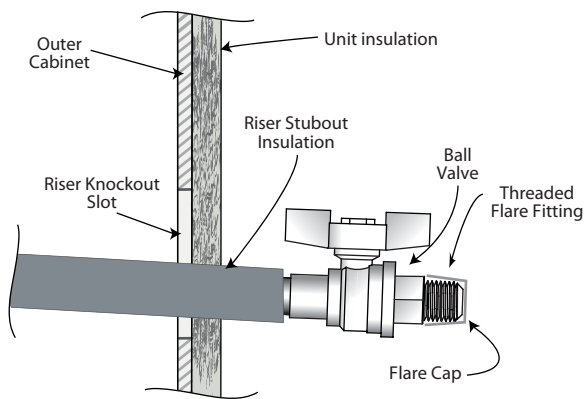

Figure 6
Proper field riser installation and vertical positioning in the unit should have a pipe run-out to the service valves which are centered in the knockout access slots and that slope down slightly away from the riser (see Figure 6). This prevents condensation from running back to the riser and possible damage from dripping at the bottom of a riser column. Each job has specific requirements and satisfying those requirements is the responsibility of the installer.
1. After the applicable Supply, Return, and Drain knockouts have been removed, carefully position the unit so that the riser ball valves penetrate into the unit through the riser knockouts making sure the insulation penetrates into the unit as shown in Figures 6, 7, and 9.